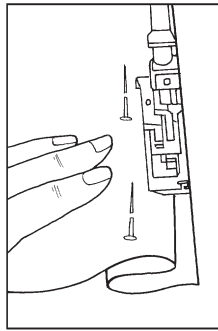

Fig. 24-4
4. Serge on the unfinished hem edge so that the needle *barely* catches the folded edge. (Fig. 24-4) If you used pins to hold the hem in place, be sure they clear the serger knives to avoid severely damaging the serger (*and you!*). As you come back to the starting point of the stitching, chain off the serged edge and clip the threads.